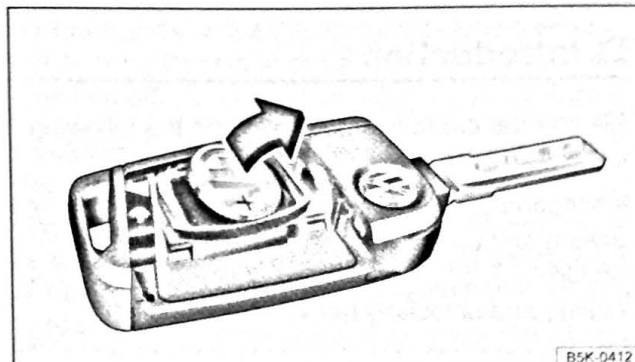

Fig. 26 Vehicle key: removing the battery
- Using a suitable thin object, lever the battery out of the battery compartment  $\Rightarrow$  Fig. 26.
- Insert the new battery as shown  $\Rightarrow$  Fig. 26 and push it into the battery compartment against the direction of the arrow  $\Rightarrow$  .